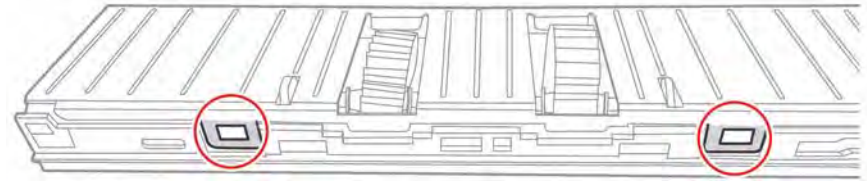
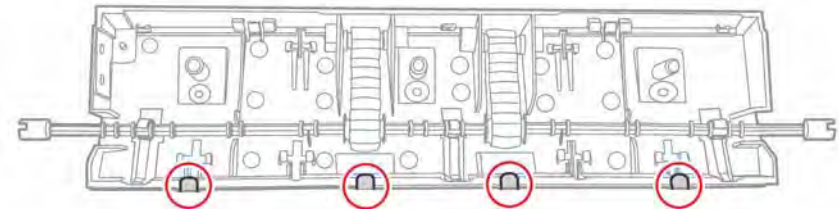

Figure 6 Tabs to release guide plate
Figure 7 Tabs to secure guide plate - seated first when re-installing plate
4. Release the metal guide plate by releasing two tabs as indicated in Figure 6. When re-installing guide plate, secure tabs on other side of the plate first, as shown in Figure 7.